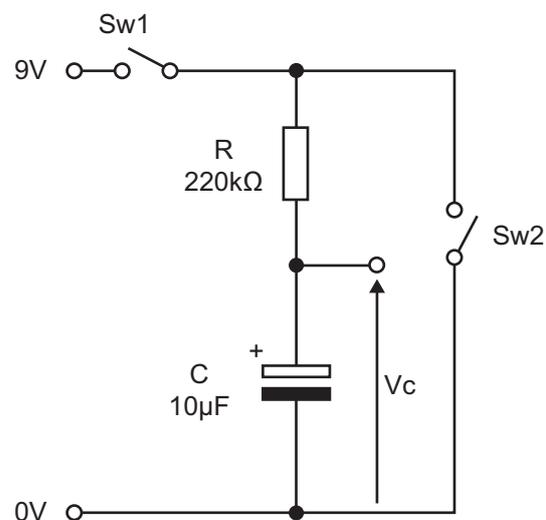

Fig. 10(a)
10 (a) A series resistor capacitor (RC) circuit is shown in Fig. 10(a).